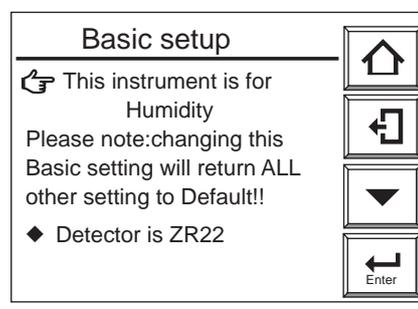

Figure 7.7 Basic Setup Display
- (5) The Basic setup display shown in Figure 7.7 then appears. Confirm the currently set converter type. If the Humidity Analyzer option /HS was selected at the time of purchase, the converter was set for high-temperature humidity use before shipment.
Check that the detector in Figure 7.7 is the one for this equipment.